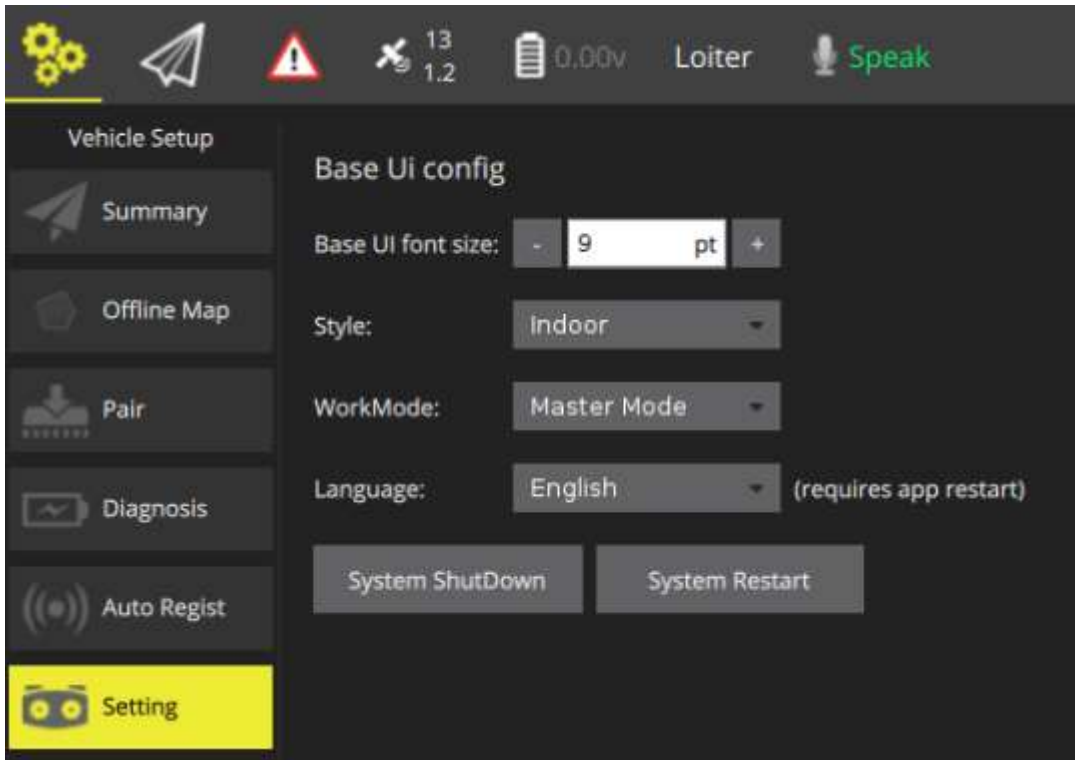

Figure 4-33
Step 1 Select “Settings > Aircraft Settings > Settings > UI Config”, and the system will display the interface of “UI Config”, as shown in Figure 4-33.